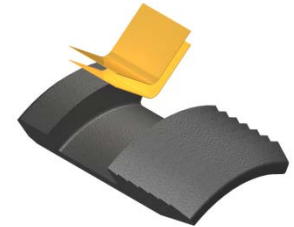

Fig. 4
**NOTE11:** Install two (2ea) springs per slip (Fig. 4).